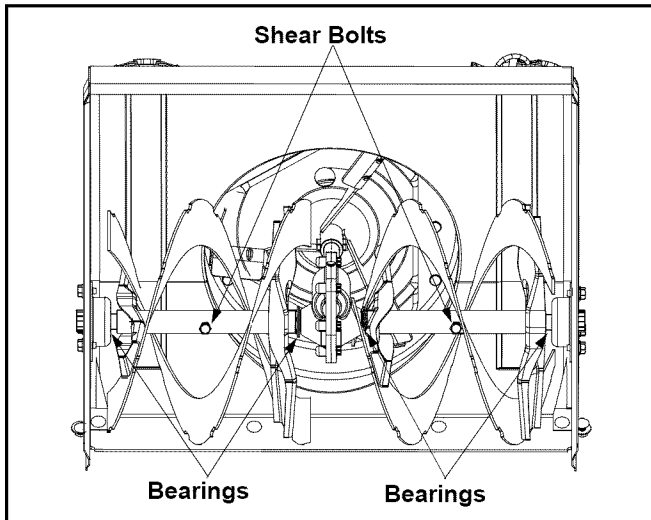

Figure 23
- At least once a season, remove shear bolts on auger shaft. Oil or spray lubricant inside shaft. Also lubricate the auger bearings at least once a season. See Figure 23.
The augers are secured to the spiral shaft with two shear bolts and hex lock nuts. If the snow thrower hits a foreign object or ice jam, the snow thrower is designed so that the bolts may shear. See Figure 23.